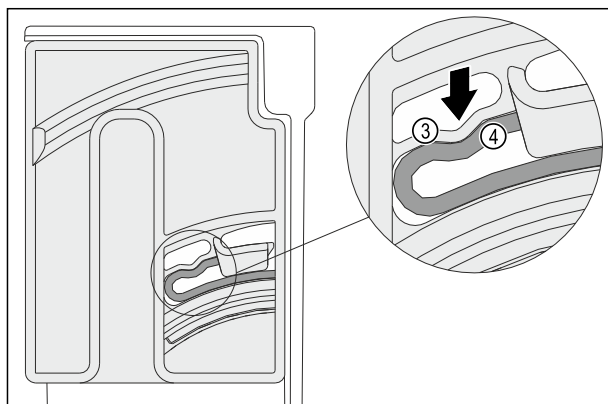

Fig. 149
- The elastic element Fig. 149 (3) of the swivel unit clicks audibly in the round mold of the ridge Fig. 149 (4).